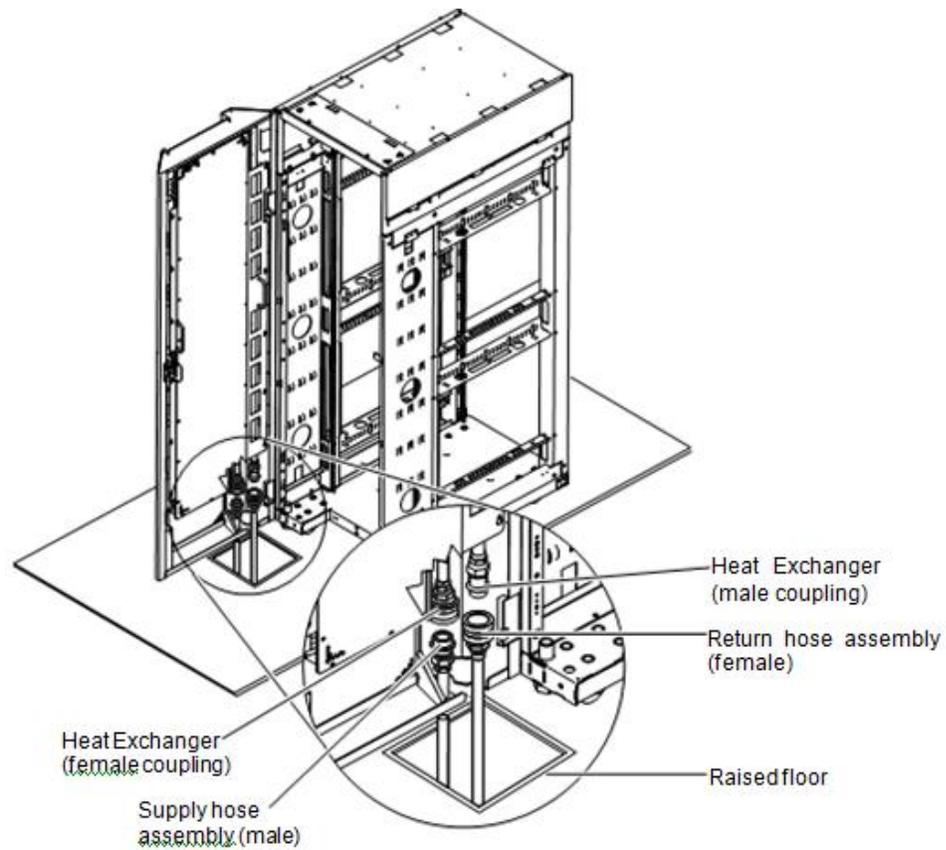

Figure 8. Raised floor hose management example 1; hose exit through floor tile at the door hinge
2. When routing hoses under raised floor tiles using a bottom-fed RDHx, straight hoses or right angle hoses may be used. Any cutouts in the raised floor tiles should be properly sealed with raised floor grommets to prevent air leakage and cover sharp edges. Using straight hoses with the bottom-fed RDHx requires a cutout in the 600mm x 600mm or 24" x 24" floor tile behind the enclosure when using straight hoses. The corner of the cutout is placed directly under the hinge side of the enclosure rear door. The opening of the cutout is recommended to be at least 152mm wide x 190mm long (6" x 7.5") in the direction parallel to the RDHx. See Figures 8 and 9. Please note stringer-less raised floors may not be able to use this method.